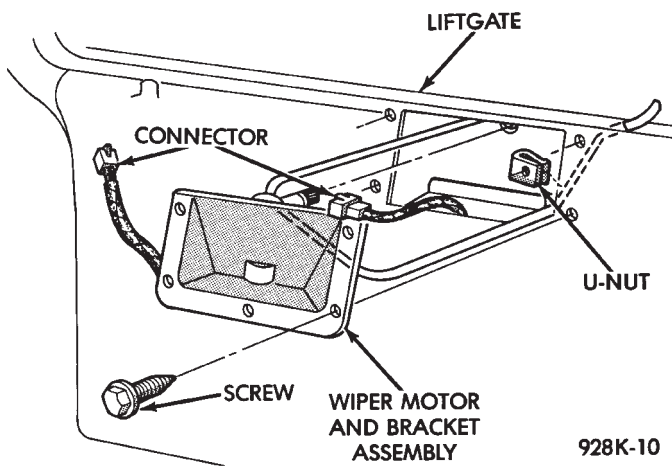

Fig. 19 Liftgate Wiper Motor and Bracket Assembly
- (1) Disconnect feed wire connector from wiper motor (Fig. 19).
- (2) With ignition switch in ON position, check for battery voltage at blue wire.
(1) Remove liftgate wiper arm assembly, refer to Wiper Arm Replacement.
(2) Unlock and open the liftgate.
(3) Remove liftgate trim panel, refer to Group 23, Liftgate Trim Panel Removal.
(4) Remove five liftgate motor mounting screws (Fig. 19).
(5) Disconnect wiring harness from liftgate motor connector.
(6) Remove motor assembly from liftgate.
(7) For installation reverse above procedures.